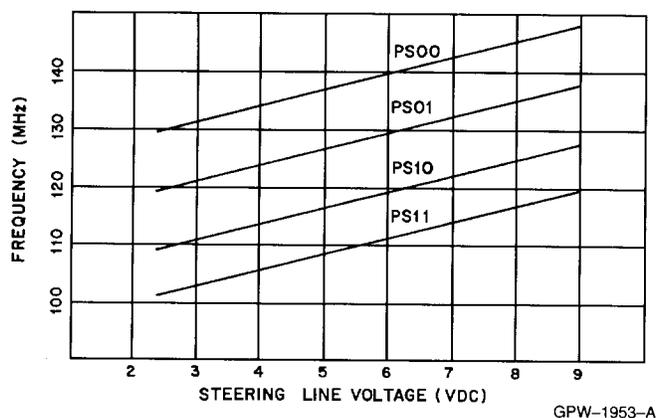

Figure 1. VCO Response to Steering Line Voltage
The steering line, in conjunction with the pinshift lines, determines the operating frequency of the VCO. The steering line is driven by the phase detector (U603) and is coupled to the VCO via the adaptive filter. The phase detector supplies a DC output voltage to maintain the VCO output at the desired frequency. When the frequency is changed, the phase detector DC output voltage shifts to change the oscillator frequency and then maintain this new frequency. Figure 1 shows the transmit and receive oscillator frequencies as functions of the steering line DC voltage.
- (2) Connect a frequency counter to the VCO feedback from the internal casting (P600). Check the pinshift lines to determine the expected VCO operating range. Verify that the lines are either high ($\geq 9V$) or low ($\leq 0.5V$). Slowly vary the steering line voltage from 3V to 8V. Verify that the VCO covers its intended frequency range (see 2.6.2.2 and Figure 1). Also check the power level and verify that it is greater than -4 dBm. Check for proper operation in all pin states. If the pinshift lines are all right and the output level to the divider port is adequate but the VCO cannot be tuned over the desired frequency range with the steering line voltage, then the VCO is faulty and should be replaced.